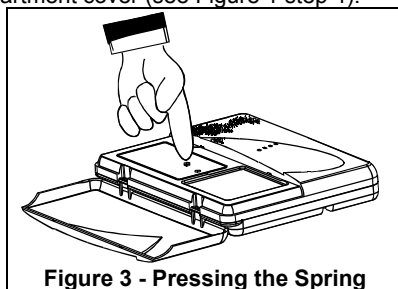

Figure 3 - Pressing the Spring
3. Momentarily press the spring that is shown in Fig. 3, to select a desired system zone number in which the desired transmitter will be enrolled. Each press advances to the next zone number (1 - 15).
3. Successively press the spring (shown in Fig. 3) to select a desired system zone in which the desired transmitter will be deleted (see table 1).
5. To delete all the transmitters from the AMBER BASIC memory, Successively press the spring (shown in Fig. 3) until all LEDs are flashing, press the spring and hold it at least 3 seconds, then press it again 3 times successively. As a result all the LEDs should switched OFF for 1 second and then will constantly flash.
1. Set the programming jumper to DEF position (see Fig. 3). All the 4 LEDs should flash.